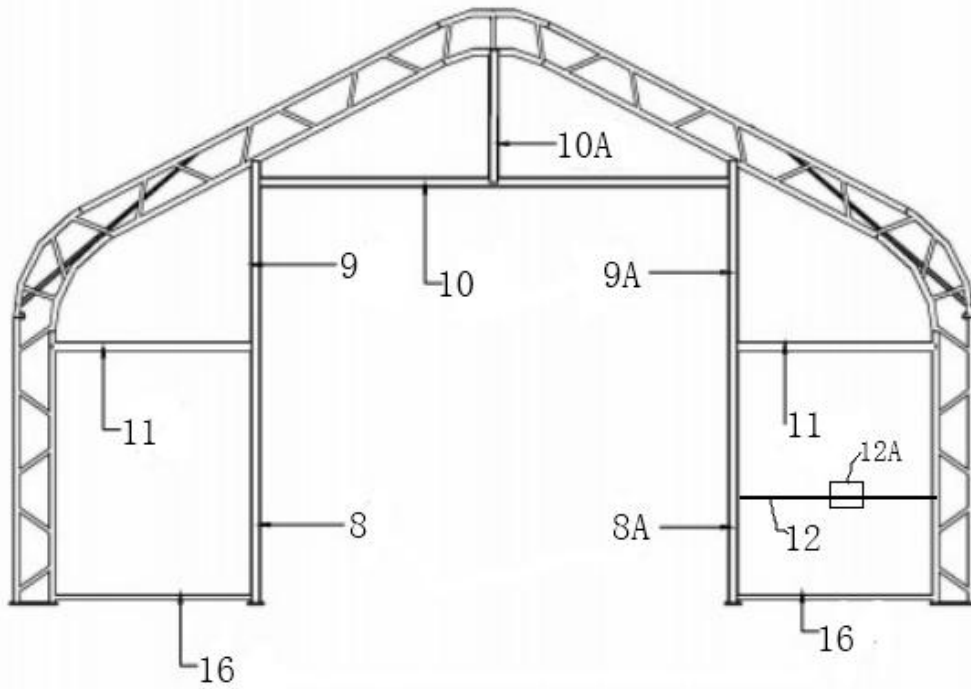

Figure 6: Front and Back door
1. Figure 6 shows to assembly the door frame according to Figure 6.